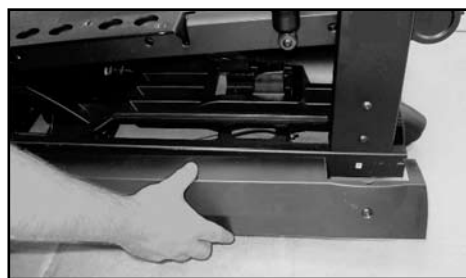

Figure 12-1
12-1 Using the provided #2 Phillips screwdriver, mount the left and right Plastic Frame Covers to the sides of the base frame using (6) #10 Phillips head screws (3 per side—see Figures 12-1 & 12-2).